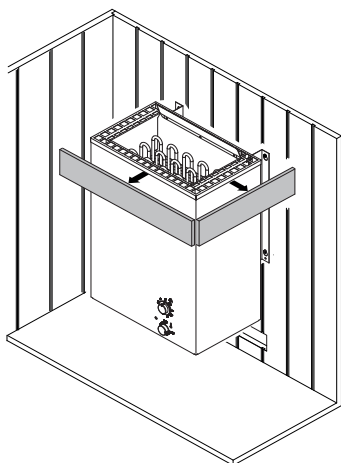

Fig. 2
- The installation height of the heater guard rail must be lined up with the top of the sauna heater (see Fig. 2).